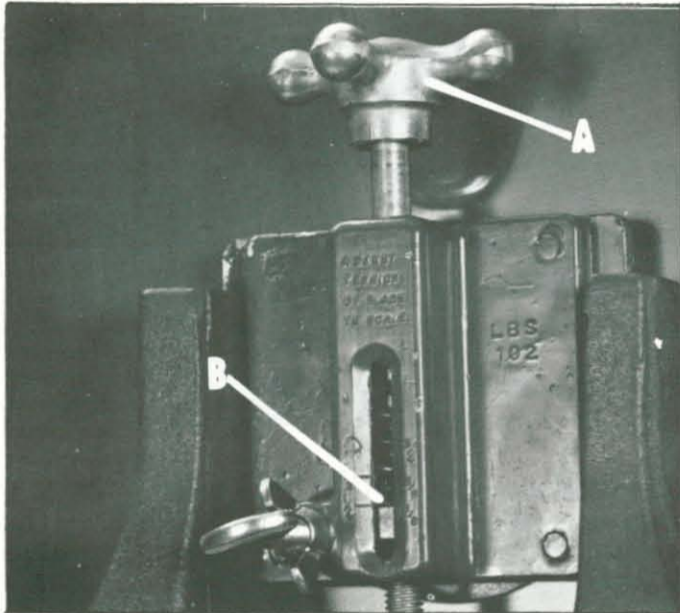

Fig. 15
2. Place the stop (A) Fig. 15, on the adjusting screw.
4. When the table is at 90 degrees to the blade, the stop (A) should come into contact with the bottom of the table. If an adjustment is necessary, loosen nut (B) Fig. 15, and turn adjusting screw until the stop (A) contacts the table.
5. It is necessary to remove the stop (A) Fig. 15, when tilting the table to the left.